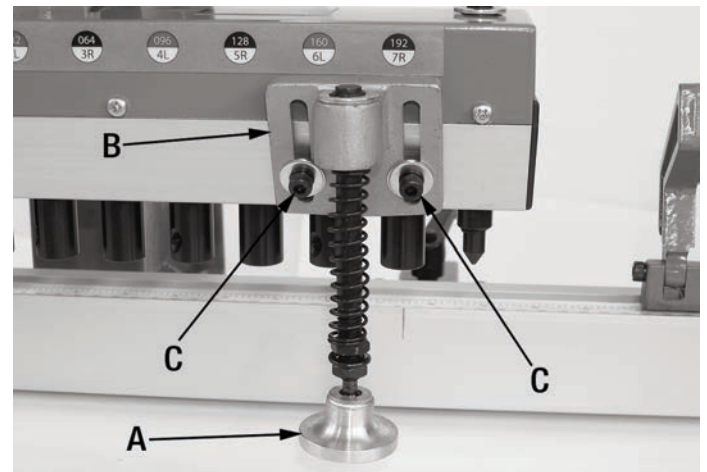

FIGURE 16
The hold-downs (A) Fig.16 are spring loaded, and engage automatically when the feed handle is pulled down for boring.
To adjust the hold downs, the position of the hold-down bracket (B) Fig.16 must be adjusted. Loosen the cap screws (C) and move the hold down assembly to the desired height.